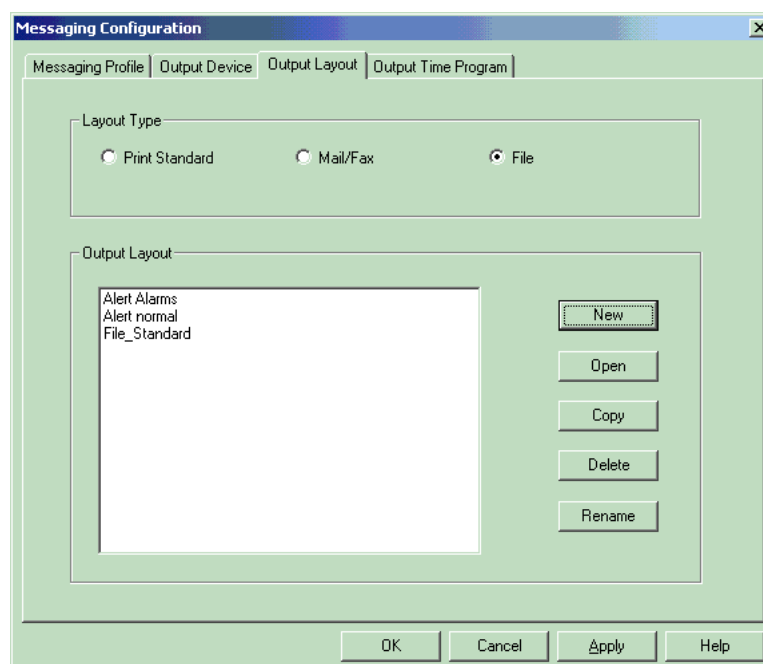

Fig. 7-45: Alert output templates
4. Now, in the "Event Publisher Configuration" window, go to the "Output template" tab and select the "File" template type (see Fig. 7-45). Create 3 output templates – one each for the "Incoming alarm", "Outgoing alarm" and "Acknowledgement" events.